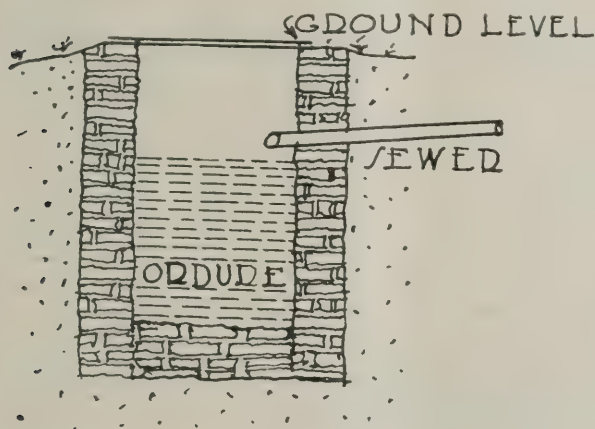

FIG. 1
pool is shown in Fig. 1. The liquid wastes from the house are deposited through a sewer into an excavation in the ground lined up with open joint masonry. The liquids permeate the surrounding earth until it becomes saturated, and slowly but constantly extend and often may reach an unknown subterranean water course, causing contamination and an epidemic of unknown origin.
**RUN**—Length over the floor which the stairs will occupy—the horizontal distance from the face of one riser to the face of the next. Figures 1 and 2.
**RISE**—Total height from the top of lower floor to the top of upper floor—height from the top of one step to the top of the next. Figures 1 and 2.
**PITCH**—Line of nosings, showing the angle of inclination of the stairs. Figure 1.
**STRING**, also called **STRINGER**—Board forming the side of the stairs. In dwelling houses it is generally  $1\frac{1}{8}$  in. thick. Figure 1. Strings are designated as wall string, outside string, housed string and open string.
**NOSING LINE**—Line formed by the intersection of the rise and run (riser and tread). Figure 1.
FIG. 1. ESSENTIAL PARTS OF THE STAIR. THE HEADER WHICH DETERMINES THE HEADROOM SHOULD BE PLACED SO AS TO SECURE AT LEAST SEVEN FEET HEADROOM IN THE CLEAR FROM THE TREAD VERTICALLY BENEATH IT
their probable load. Rough brackets are nailed to the sides of these scantlings, fitting tightly under each tread. Figure 1.
cient headroom to meet all probable requirements of the stairway. The header which determines the headroom should be placed so as to secure 7 feet of headroom from the tread vertically beneath it. Figure 1.
PROPORTIONING OF TREADS AND RISERS—Experience teaches that between 6 in. and 7 in. is the limit of easy stepping. The wider the step the lower the rise should be. A good rule for determining the proportion that should exist between treads and risers for dwelling houses, considering an easy line of travel as well as the appearance of the stairs, is to have the sum of the rise and run equal as near as possible 17. In Figure 1, the total rise from the top of one floor to the top of the next is given as 9 ft.  $8\frac{7}{8}$  in. or  $116\frac{7}{8}$  in. To find the proper width for the riser, first find out how many risers are required by dividing  $116\frac{7}{8}$  in. by 7 in. which gives 17 risers. Now divide  $116\frac{7}{8}$  in. by 17 will give the exact width of the riser, which will be found to be  $6\frac{7}{8}$  in. Subtract  $6\frac{7}{8}$  in. from